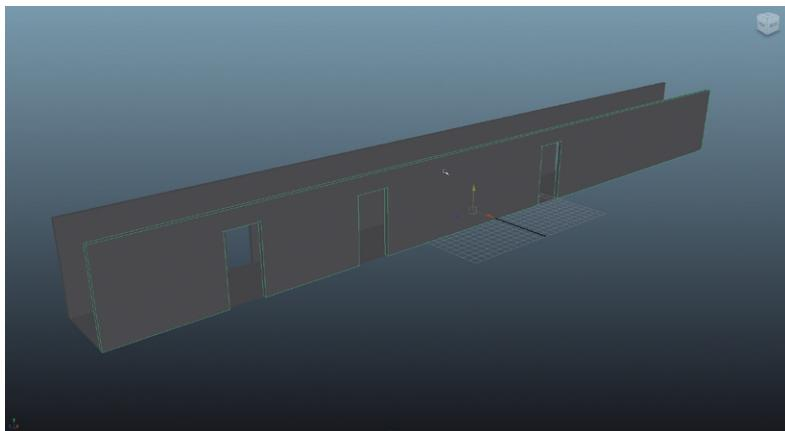

FIG 3.19 Creating doorways for the east wall.
Step 29: Repeat for the other side of the hallway, only this time work with door holes that are 3 feet wide and 8.5 feet tall (these will largely be open portals – no doors). We only need three; roughly place them as shown in Fig. 3.19.